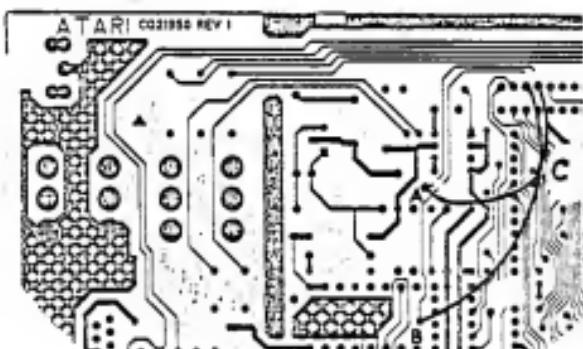

Figure 2. Jumper Wire Placement
2. Wrap one end of the jumper wire around Pin 15 of J1, and attach the other end of the wire to the feed-thru identified as A in Figure 2 (below R9).
3. Wrap one end of another jumper wire around Pin 16 of J1, and attach the other end of the wire to the feed-thru identified as B in Figure 2 (near the ends of C12 and R19).
4. Use a non-conductive material and tack the jumper wires to the board. Tack the wires at locations identified as C in Figure 2.